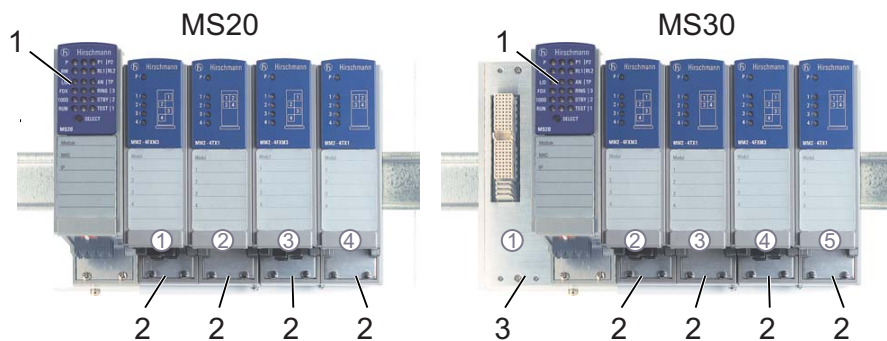

Figure 1: MICE basic module equipped with media modules
- The device must be installed in the vertical position (see figure 1).